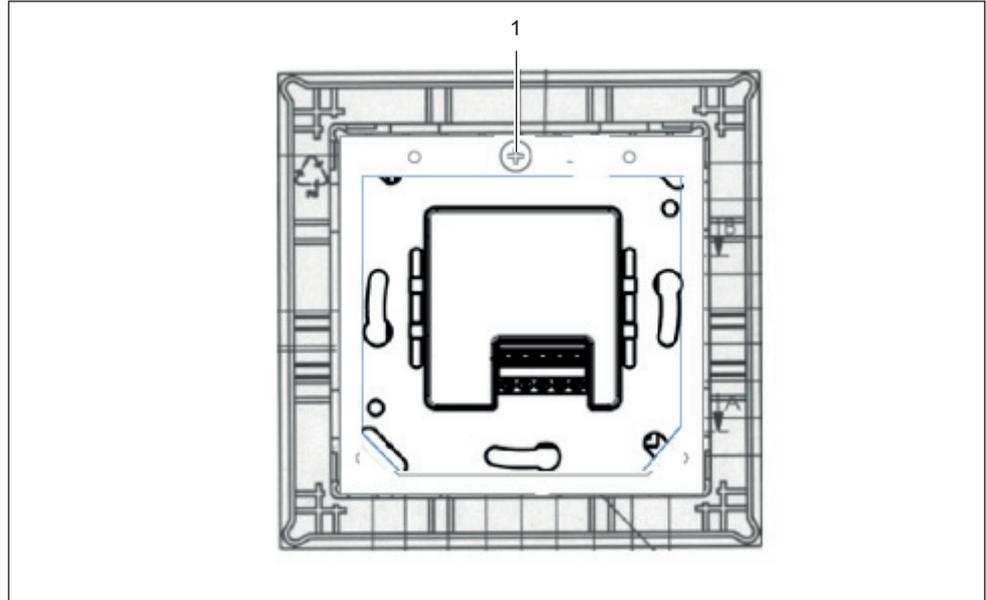

Fig. 5: Insert the mounting plate and fix it
4. Reinsert the clamping plate into the blind module and fix it (fig. 5/1).